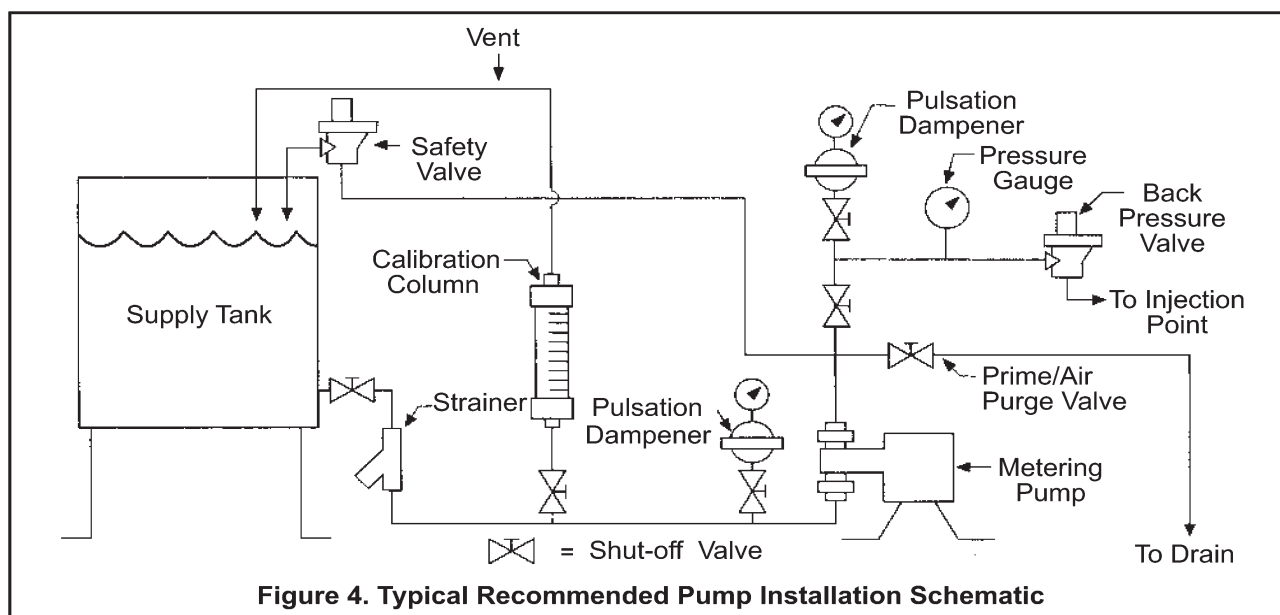

Figure 4. Typical Recommended Pump Installation Schematic
- See Figure 4 for a typical recommended pump installation scheme.
Install the safety valve in the discharge line between the pump and the nearest shut-off valve. (This will prevent pump damage from accidental valve closure.) Pipe the safety valve outlet back to the suction tank or to drain, but in either case ensure that the pipe end is continuously visible so safety valve leakage may be detected. Milton Roy safety valves must be installed at top of supply tank in order to function properly (see Figure 4).
Provide shut-off valves in both suction and discharge lines next to the pump. Locate discharge line shut-off valve downstream from the inlet connection of the safety valve. Figure 4 shows recommended valve locations.